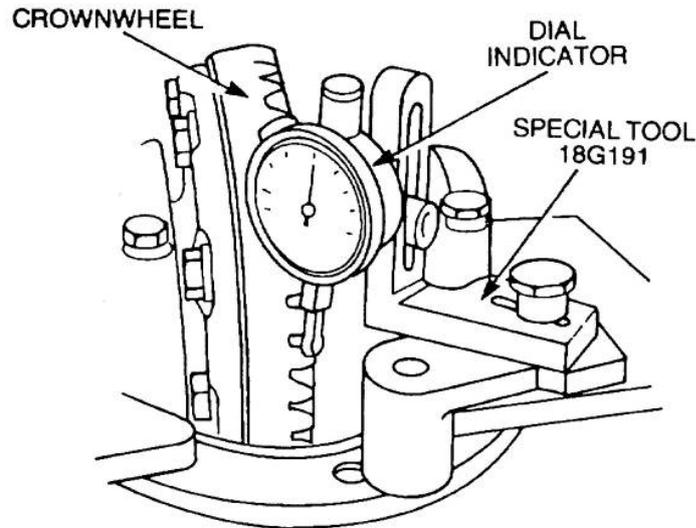

Figure 267 Final Check of the Differential Backlash
- y. Position a dial indicator on the differential carrier flange (Figure 267) and place the stylus on a crownwheel tooth. Hold the pinion shaft flange and check the backlash between the crownwheel and pinion gear teeth. If the backlash is not between 0.20 to 0.25 mm (0.008 to 0.010 in), repeat the procedure (Para 81. x.).